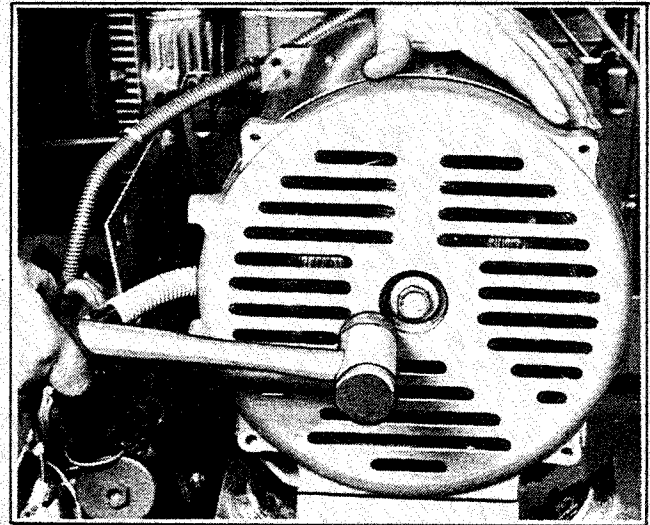

Figure 8-16. Positioning End Bracket
- Route stator leads through opening in end bracket while positioning end bracket on stator. Tap end bracket into position with a plastic mallet. Figure 8-16.